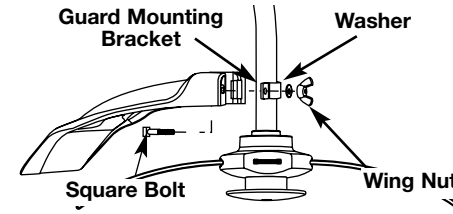

Fig. 2
2. From inside the cutting attachment shield, push the square bolt through the hole until the threaded end protrudes through the guard mounting bracket (Fig. 2).